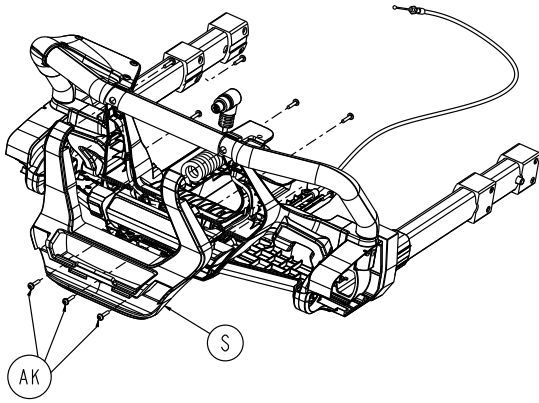

Figure 89 – Remove the foot end enclosure
9. Using a T20 Torx driver, remove the three round washer head tapping screws (AK) from the foot end enclosure (S) (Figure 89). Remove the front foot end housing. Save all parts.